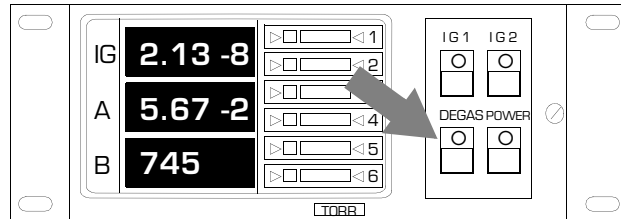

Figure 5-2 Control Unit Front Panel Showing DEGAS Button and LED Indicator
5. To degas IG1 (IG1 must be on and the pressure within IG1 must be below 5×10^{-5} Torr), depress the DEGAS switch on the Control Unit (see Figure 5-2). When degassing with filament 1 or 2 selected, both filaments will operate in order to achieve full degas power and thorough cleaning of both filaments.
6. When either filament is nearing the end of its useful lifetime or is badly contaminated, the DEGAS switch LED indicator on the front panel will blink during degassing (see Figure 5-2). This is an indication that the filament emission properties have deteriorated. This may be due to contamination which has temporarily “poisoned” the filament coating, or to long term permanent erosion of the coating.